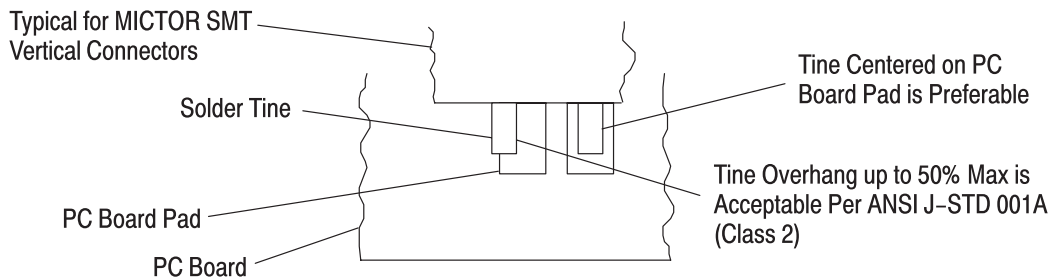

Figure 6
*Optimally, the connector solder tines should be centered on the pc board pads. However, slight misalignment is permissible. See Figure 6.*